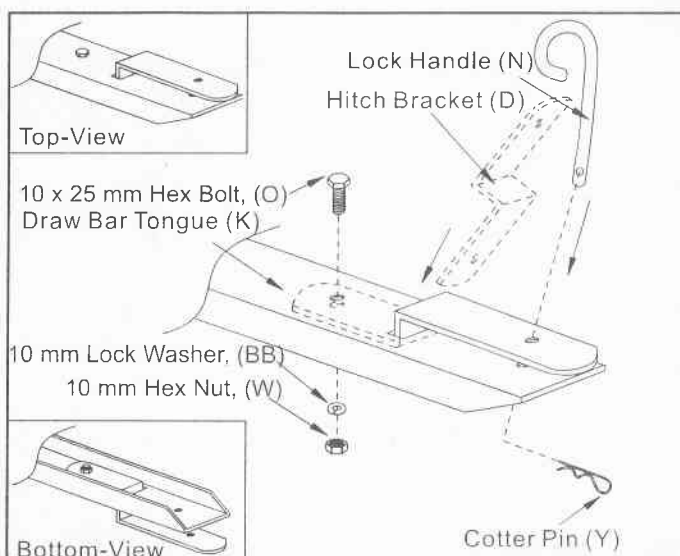

FIGURE 10
16. Assemble the end of the hitch bracket (D) (two holes) down through the slot at the front of the drawbar tongue (K). Fasten it to the tongue using the 10 x 25 mm hex bolt (O), 10 mm lock washer (BB) and 10 mm hex nut (W). Tighten. See figure 10.